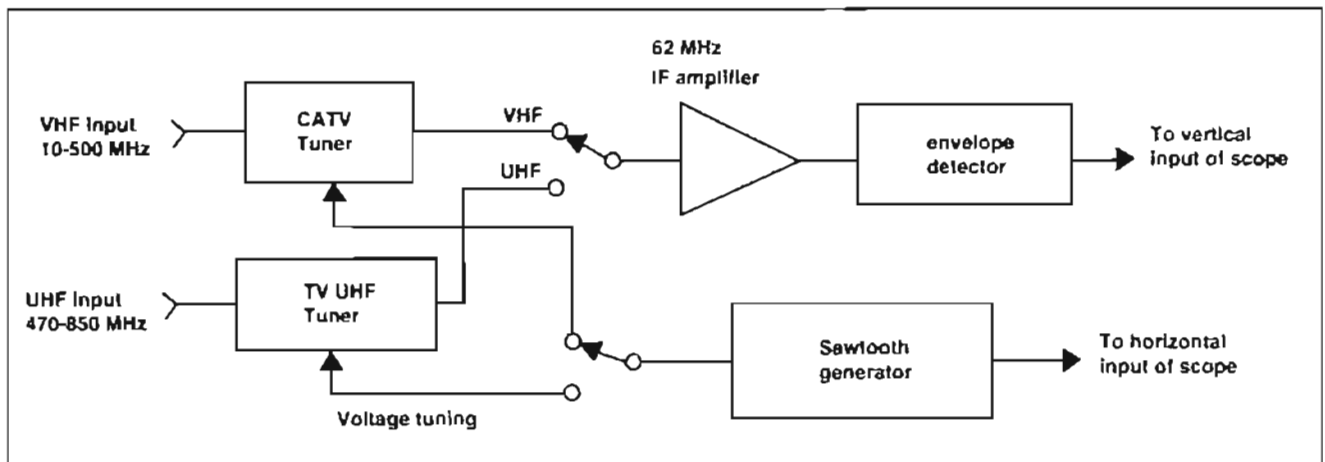

Figure 1. Block diagram of the spectrum analyzer.
A major cost component is represented by the CRT display section. If you already have a good shop scope with DC coupling and XY inputs, you have half of a spectrum analyzer already in hand. By adding a CATV tuner and a UHF TV tuner, along with some simple support circuitry, you can cover from 5 to 850 MHz in two bands! The block diagram is shown in **Figure 1**. Either tuner can be selected, and its output amplified by the 62-MHz IF strip and detected. The detected signal feeds the vertical (Y) input of the scope. The tuners are swept across their tuning range by a sawtooth waveform generator that's also used to drive the scope horizontal (X axis) input.